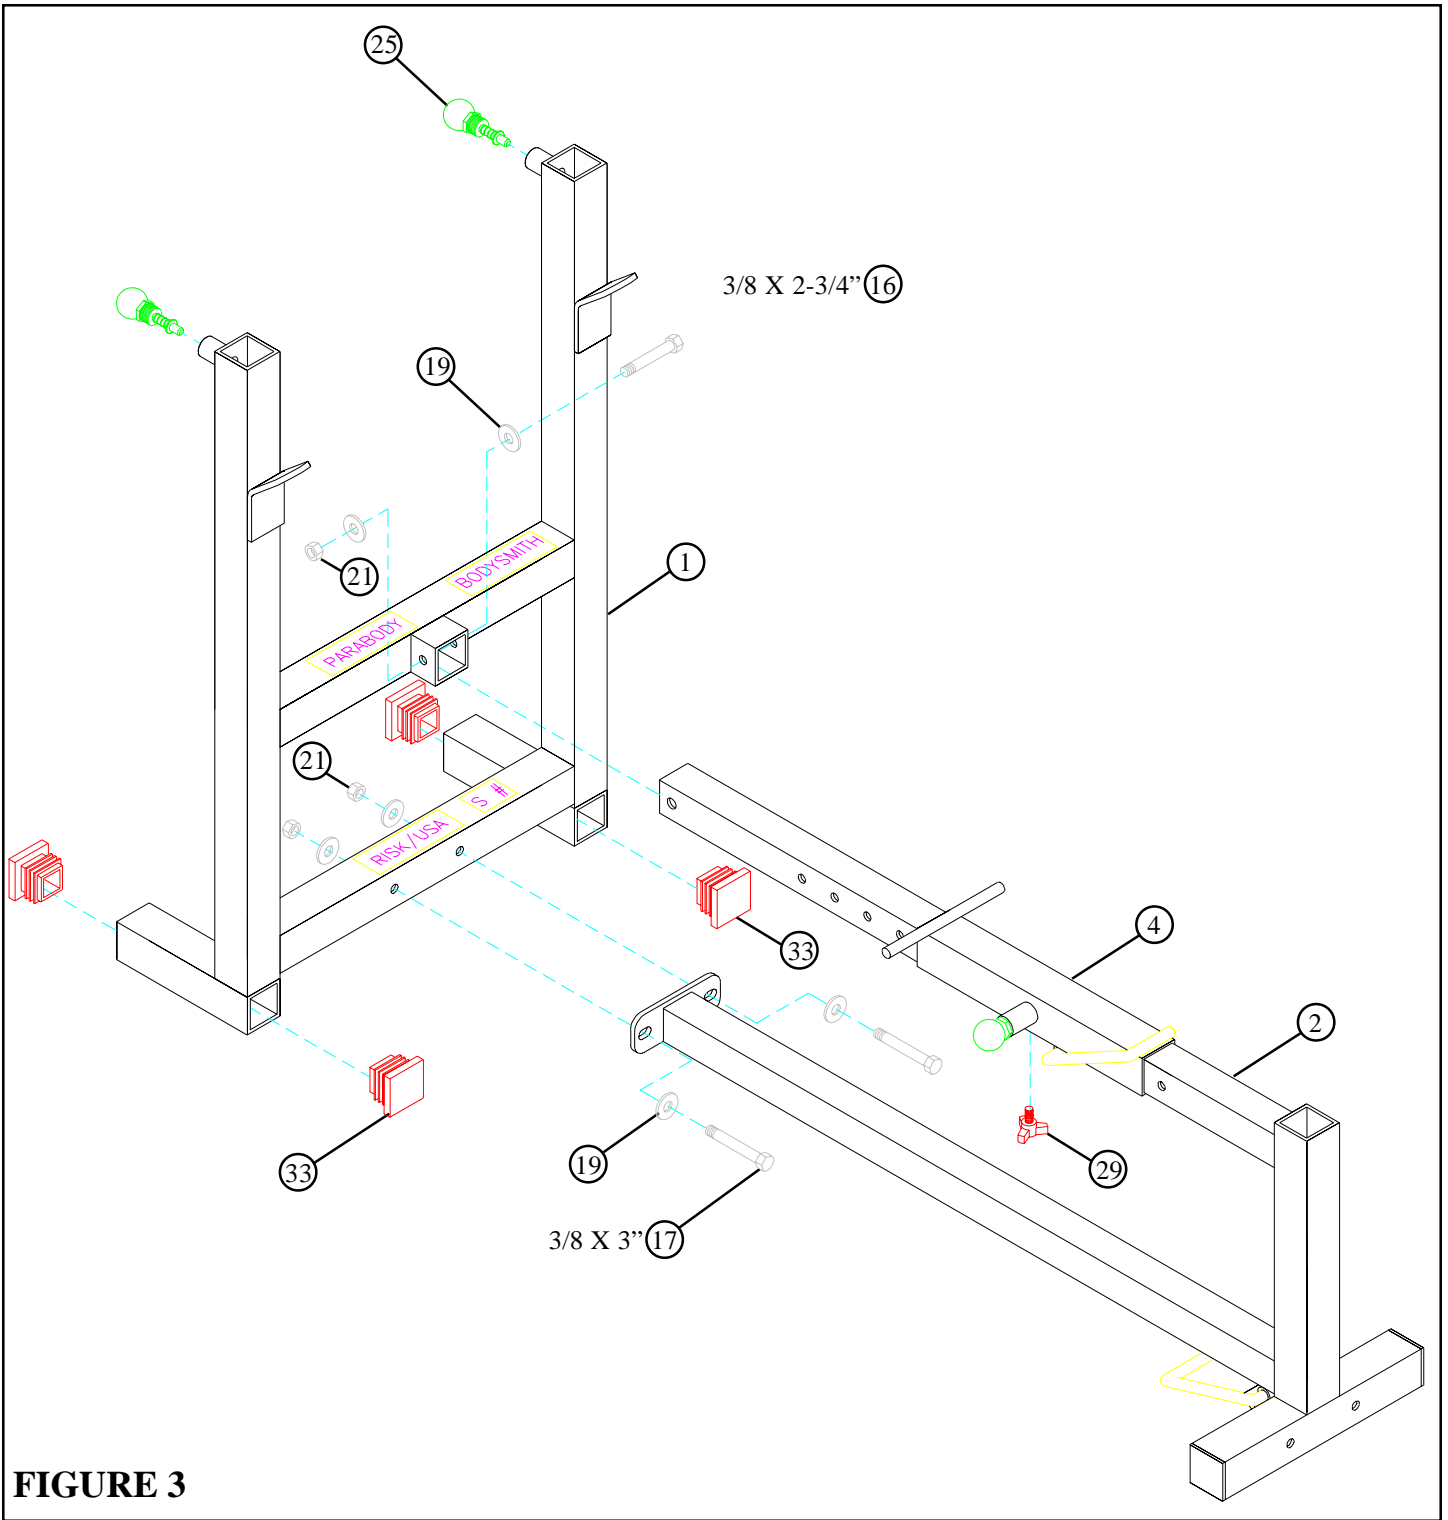

**FIGURE 2**
- Pull back the SPRING PIN on the WOLFF SLEEVE (4) and slide it over the end of the BENCH FRAME (2) as shown in FIGURE 2. Engage the SPRING PIN into one of the adjustment holes.
- Insert two 2" SQ. END CAPS (33) into both ends of the BASE LEG (5) as shown in FIGURE 2.
- Insert one U-PIN (10) through the BUSHING on the bottom of BENCH FRAME (2) and attach one PAL NUT (28) to the end of the U-PIN (10) as shown in FIGURE 2.
- Insert the BASE LEG (5) into the front of the BENCH FRAME (2) as shown in FIGURE 2. **(MAKE SURE THAT THE TAB ON THE BASE LEG IS UNDER THE BENCH FRAME)**